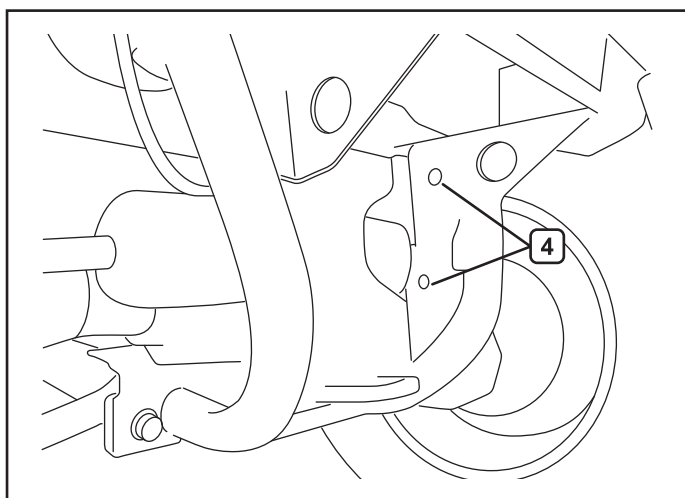

Figure 9.
6. Reinstall screws (2) removed in step 5.
7. Install winch mount (A) assembly with bolts (H) and washers (L, K) to frame holes (4), as shown in figures 9, 10 and 11.